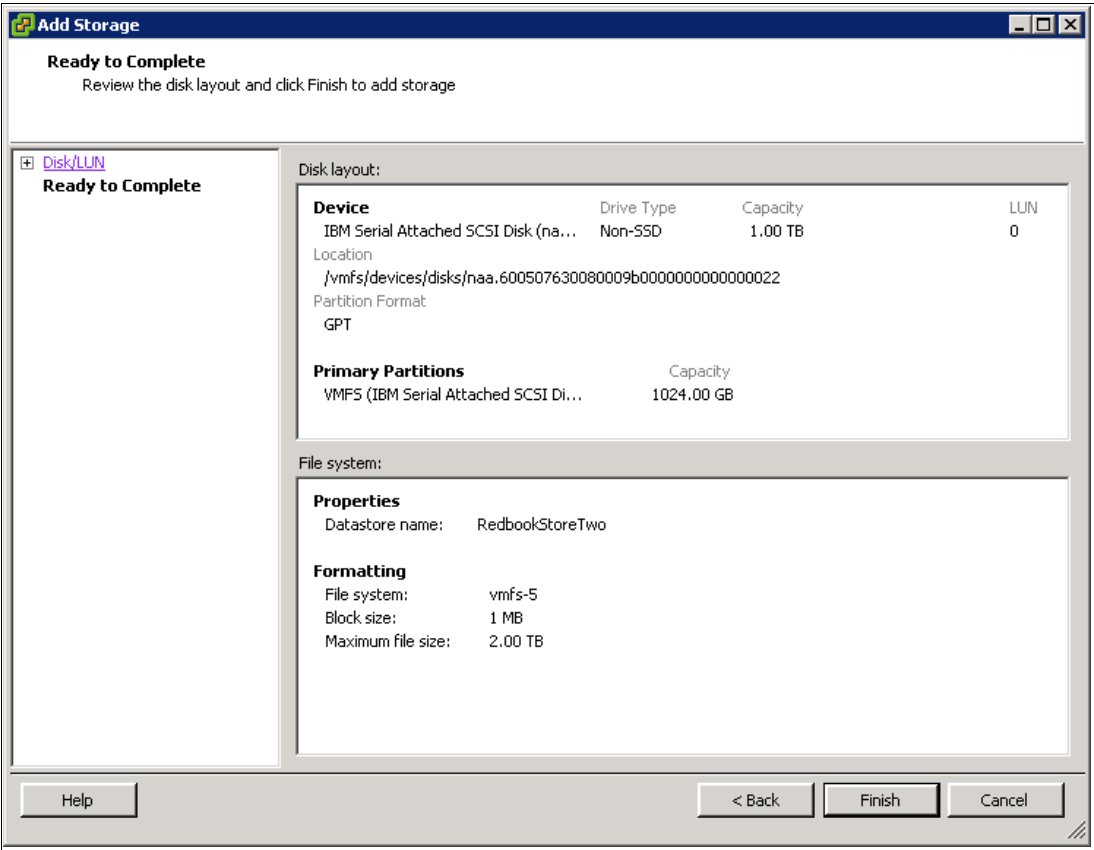

Figure 5-91 Finish the wizard
13.Review your selections and click **Finish**, as shown in Figure 5-91.